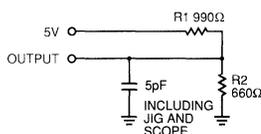

Figure 1b
5. Transition is measured $\pm 500\text{mV}$ from steady state with $C_L = 5\text{pF}$ as shown in Figure 1b on page 4. This parameter is guaranteed and not 100% tested.
4. Transition is measured $\pm 500mV$ from steady state with $C_L = 5pF$ as shown in Figure 1b on page 4. This parameter is guaranteed and not 100% tested.